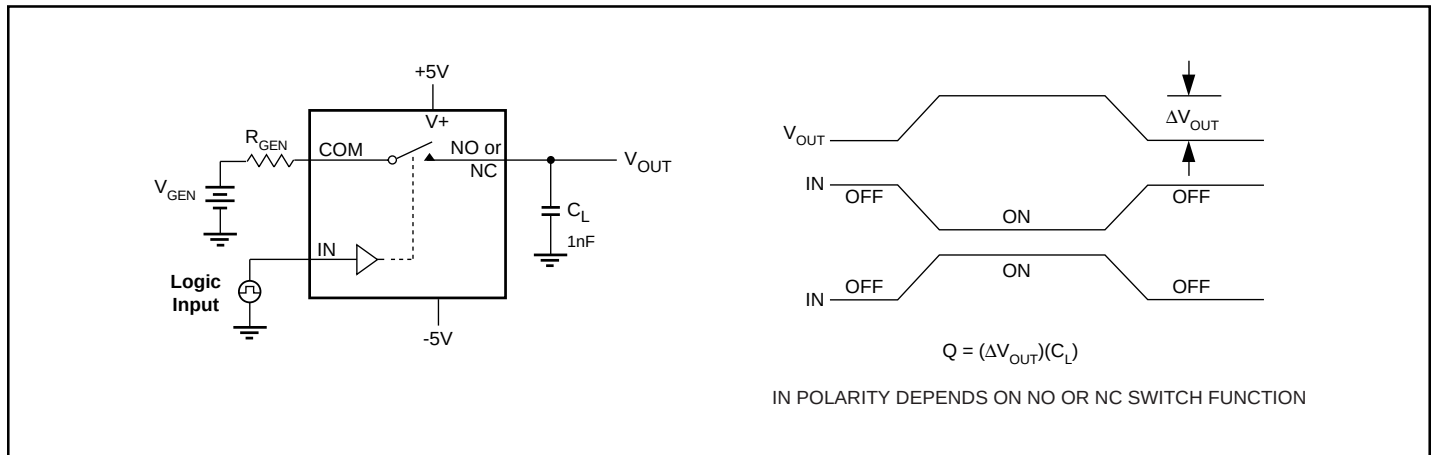

Figure 4. Charge Injection
| Charge Injection (3)             | Q                     | C L =1nF, V GEN = 0V, R GEN = 0Ω, Figure 4   |            |                     | 8                   | 12                  |       |